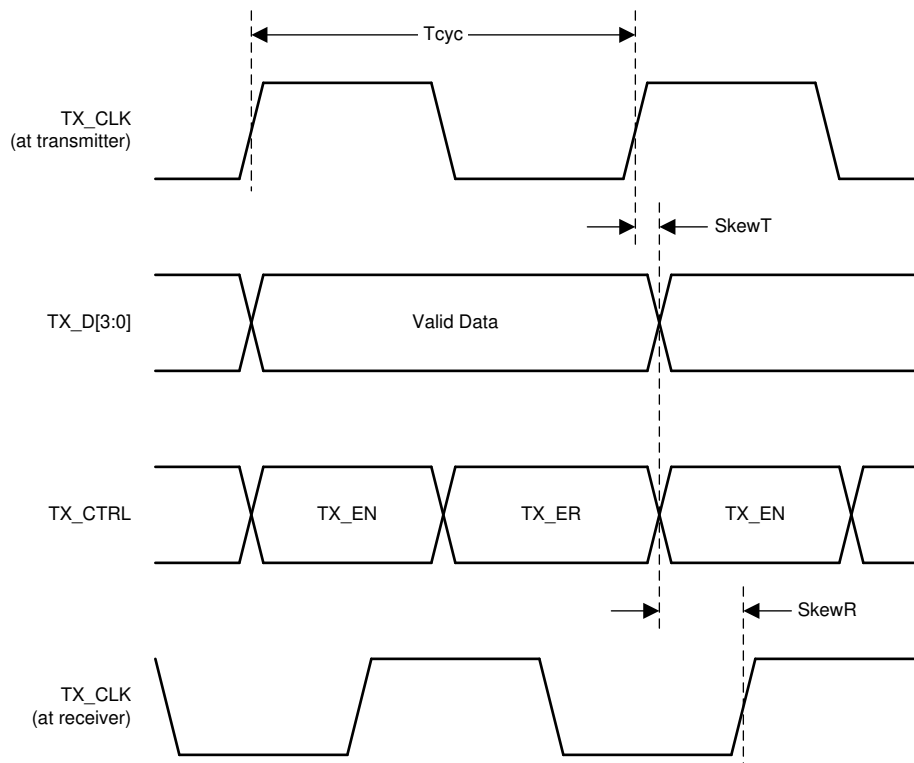
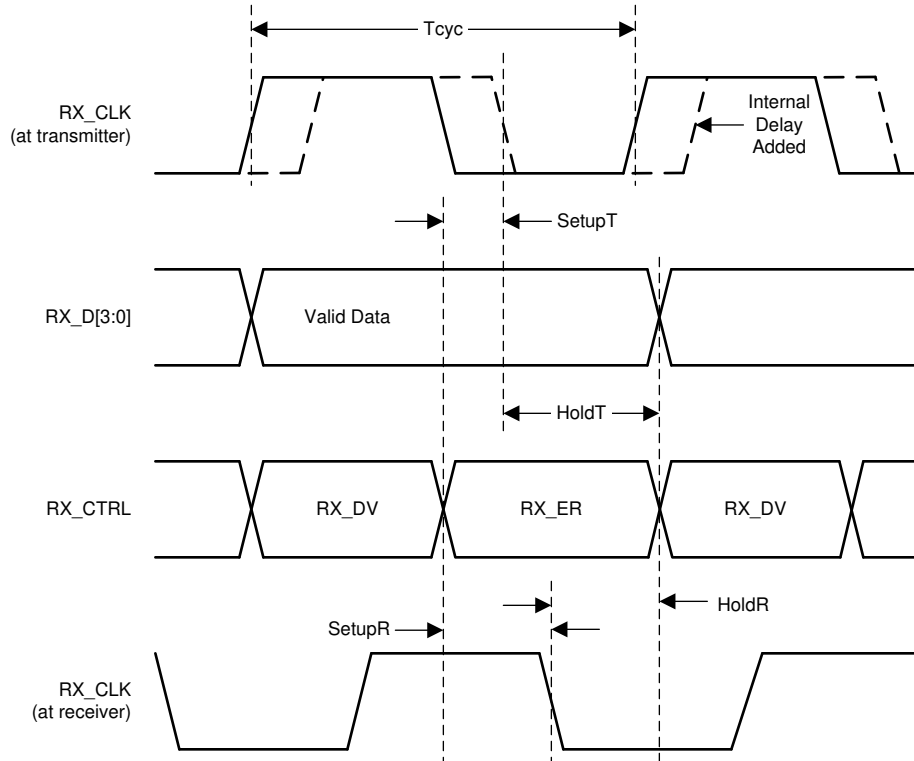

图 7-11. RGMII Transmit Timing
图 7-12. RGMII Receive Timing
- (1) Ensured by production test, characterization or design.
(2) When operating without RGMII internal delay, the PCB design requires clocks to be routed such that an additional trace delay of greater than 1.5 ns is added to the associated clock signal.
(3) Device may operate with or without internal delay.
(4) The duty cycle may be stretched or shrunk during speed changes or while transitioning to a received packet's clock domain as long as minimum duty cycle is not violated and stretching occurs for no more than three Tcyc of the lowest speed transitioned between.
(5) See 图 7-11 and 图 7-12.